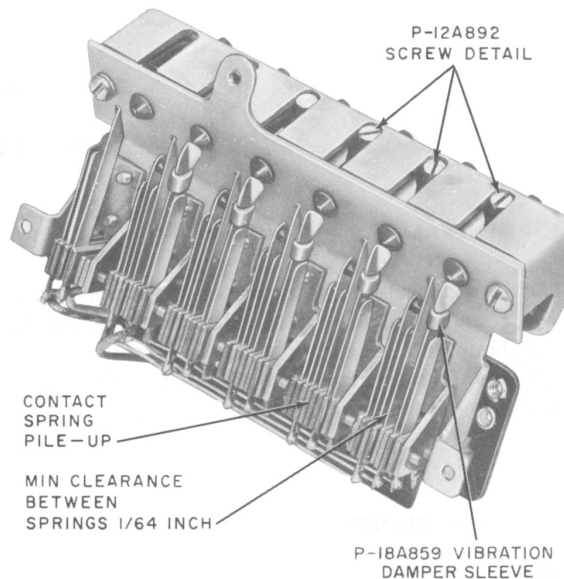

Fig. 3—589-Type Key, Bottom View
- (b) Replacing loose or missing damper studs with P-18A859 vibration damper sleeves (Fig. 3). Later 589-type keys do not require this vibration damper.
**2.10** Contact follow and separation is obtained by using a 363 tool at a point adjacent to contact spring pile-up (Fig. 3). When adjusting springs:
- (a) There should be a minimum spring clearance of 1/64-inch between contact springs and those parts of the key which do not make contact with springs (Fig. 3).